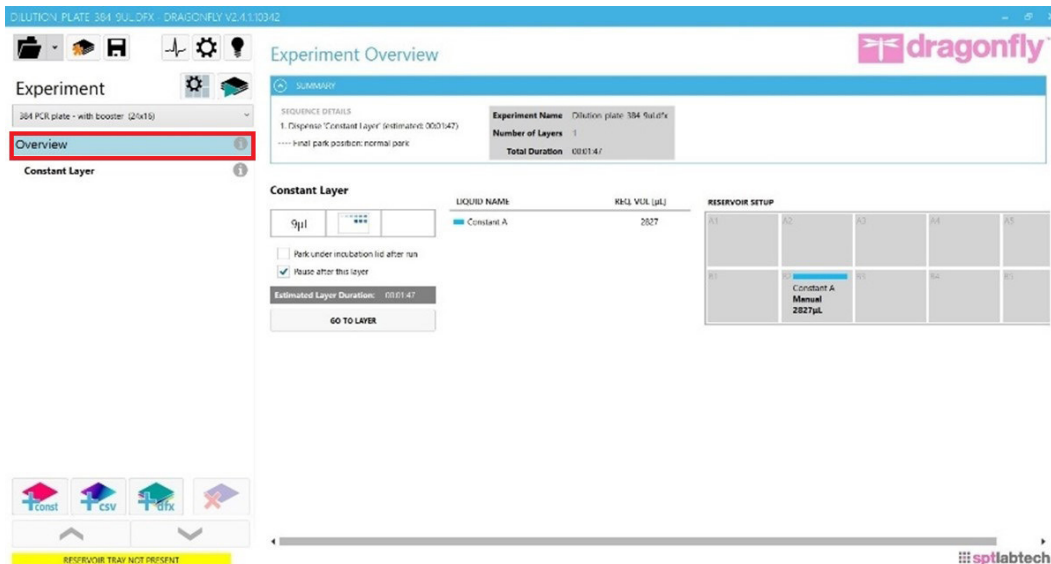

Figure 7. Experiment Overview (here: Sample Dilution Plate)
3. Click on the folder icon at the top left corner and open the applicable protocol (according to instructions). The protocol opens in the Experiment Overview (Figure 7).